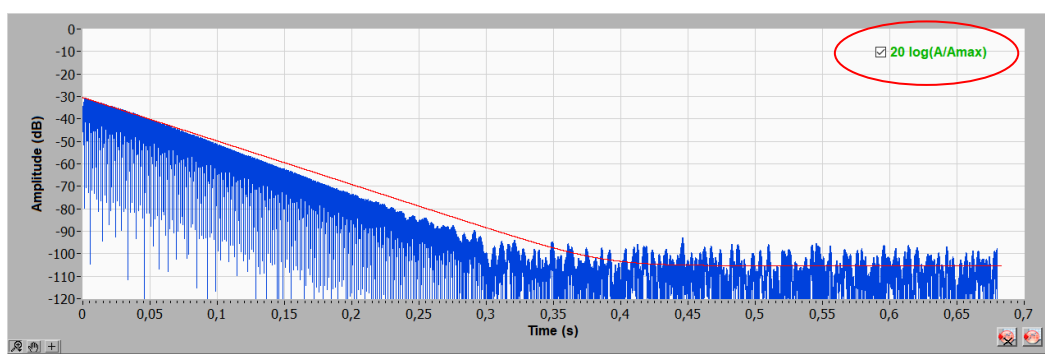

Figure 63 - Example of amplitude vs. time in log scale.
These graphs allow the application of the “Zoom” options and the exportation process as described in item 8.1.5 *Spectrum and pre-processing of the signal*. To visualize the graph in logarithm scale, select the option “20 log (A/Amax)”, highlighted on Fig. 63.